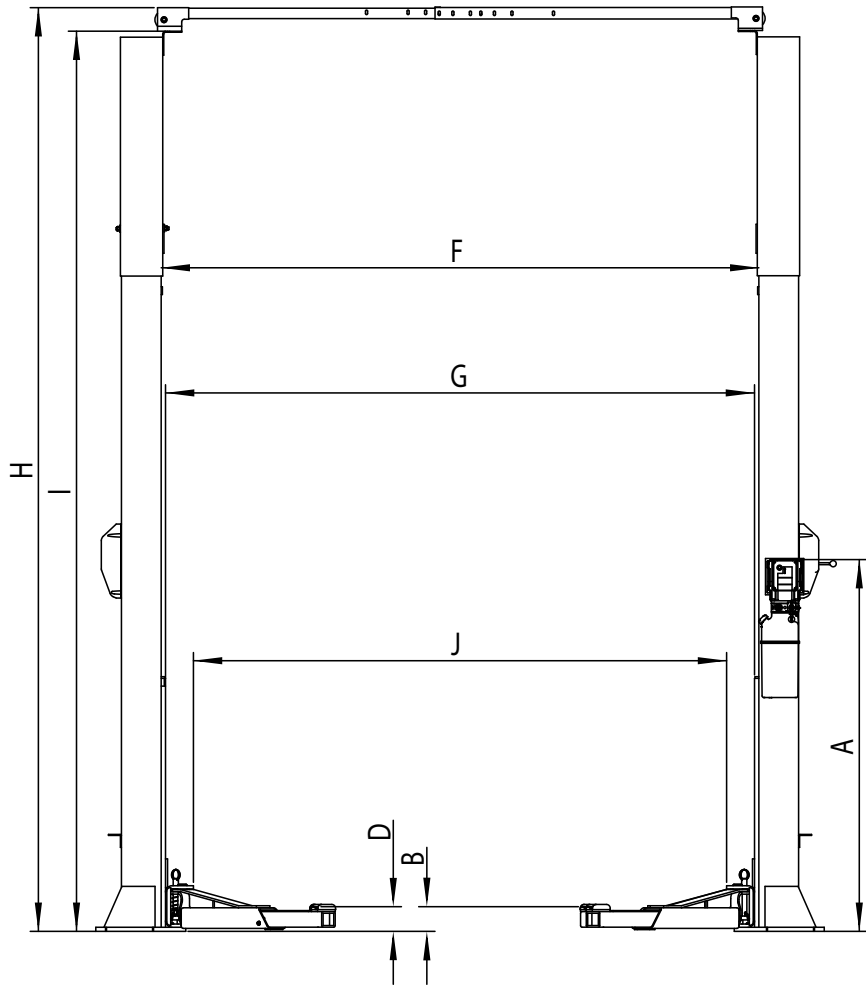
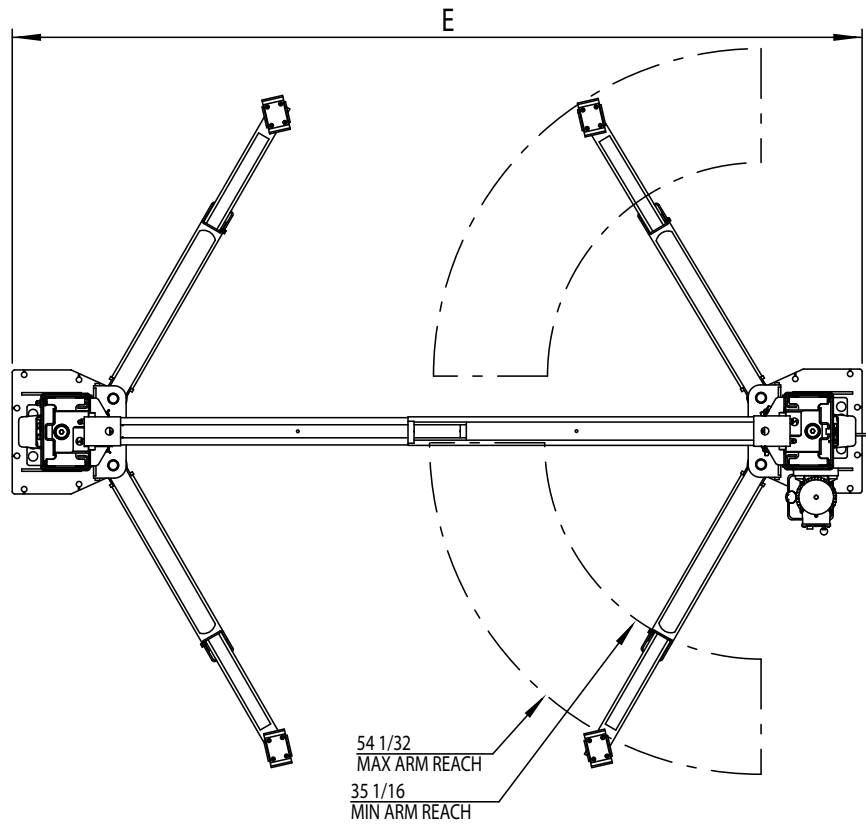
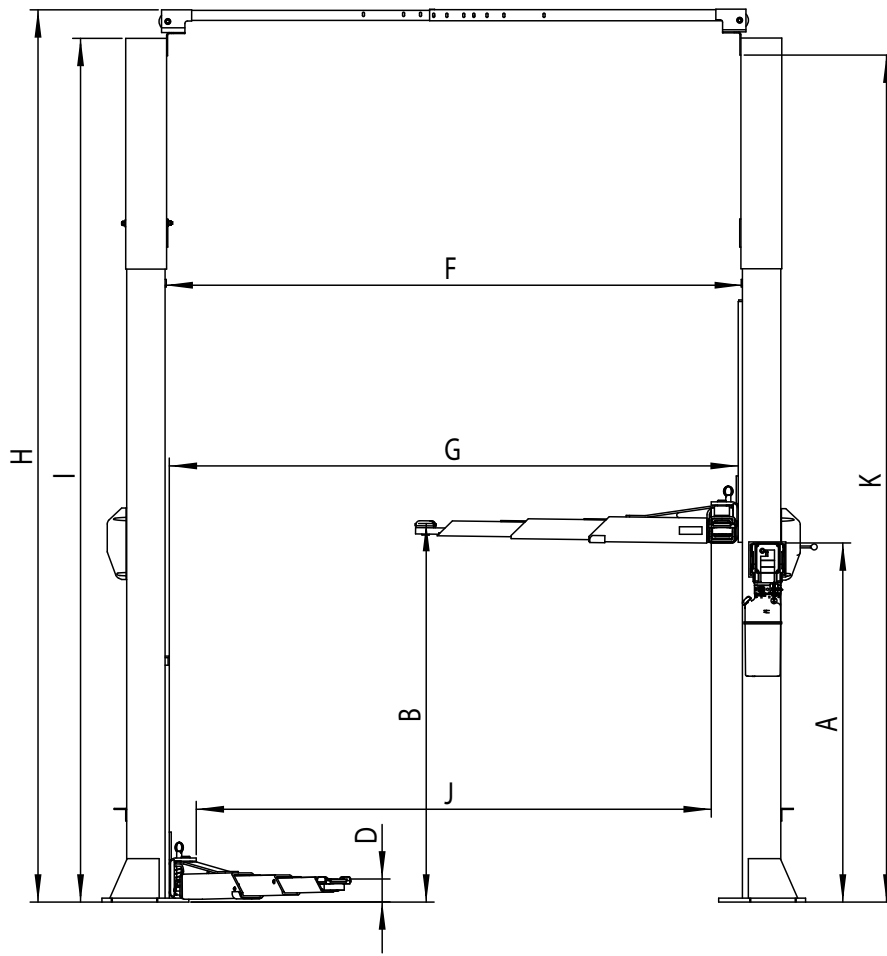
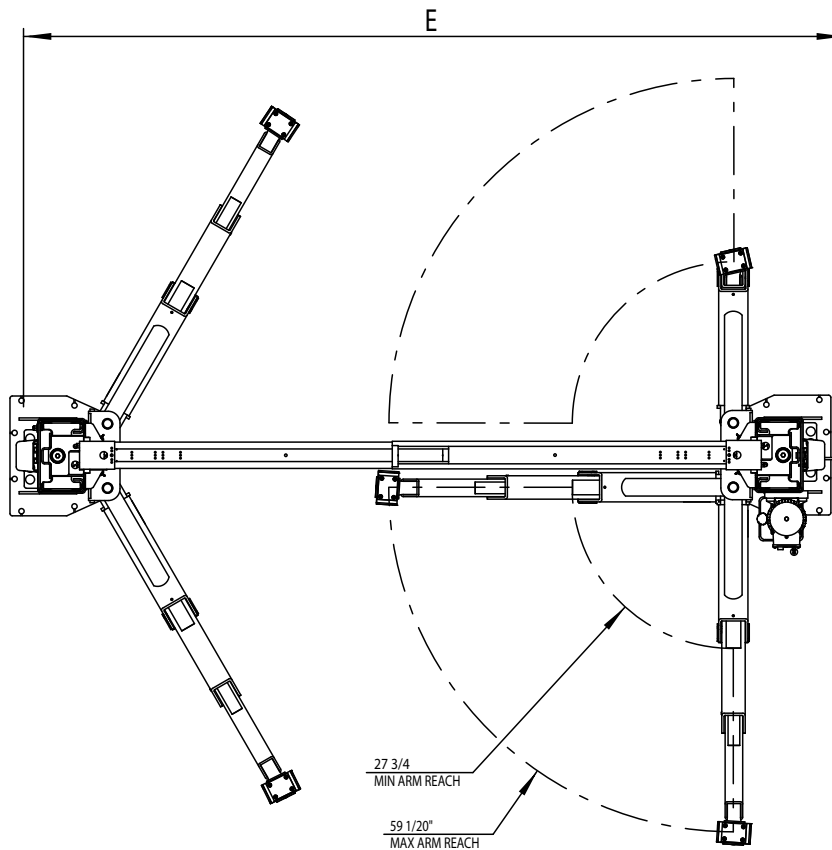

Fig. 1a
Fig. 1b
Fig. 1c
Fig. 1d
**1. Lift Location:** Use architects plan when available to locate lift. Fig. 1a, Fig. 1b, Fig. 1c & Fig. 1d shows dimensions of a typical bay layout.
**4. Lift Setting:** Position columns in bay using dimensions shown in Fig. 1a, Fig. 1b, Fig. 1c & Fig. 1d. Place column with power unit mounting bracket on vehicle passenger side of lift. Both column base plate backs must be square on center line of lift. Notches are cut into each base plate to indicate center line of lift. Use appropriate equipment to raise carriage to first latch position. Be sure locking latch is securely engaged.